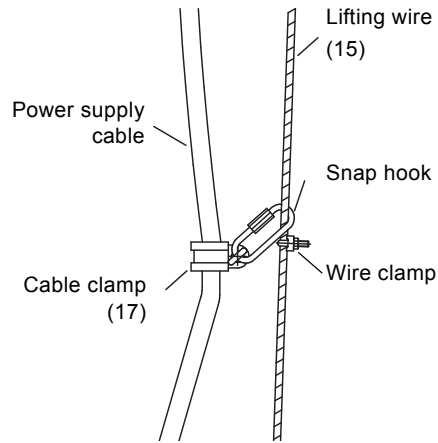

Fig. 8 Attaching the power supply cable to the lifting wire
16. Fix the power supply cable to the lifting wire by means of a cable clamp approx. 2.6 ft (0.8 m) above the pump. This will prevent the cable from falling down and becoming entangled in the impeller during operation. Connect the cable clamp to the lifting wire above the wire clamp by means of a snap hook. See fig. 8. Attach the power supply cable to the lifting wire by means of cable clamps placed at 3 ft (~1 m) intervals.